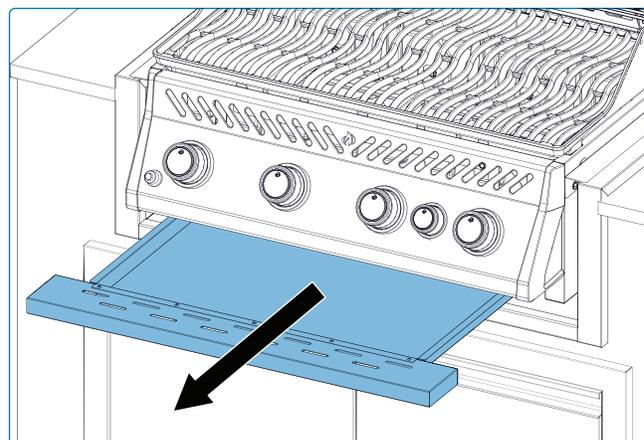

Fig. 14
1. Remove the screw(s) attaching the burner to the back wall of the grill. Slide the burner back and upward to remove (**Fig. 14**).